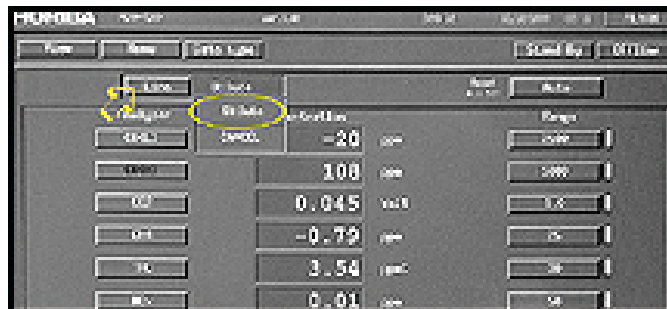

Figure 3
- 101 In the control room, on the command screen of the Horiba Master Control Unit (MCU) computer in the control room, click on "Line." See the arrow in Figure 3. From the resulting menu, click on "Dilute." See the circle in Figure 3.